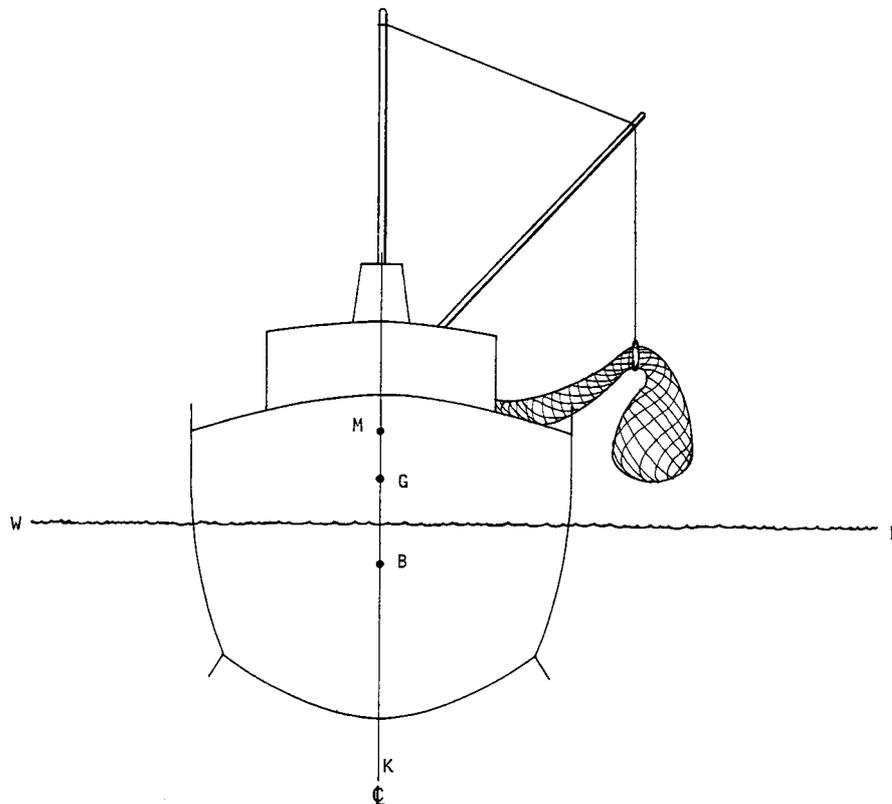

Fig. 2B.11
7. Figure 2B.11 shows a fishing trawler in the process of swinging a laden net on board. Where does the centre of gravity of the suspended weight act and what effect does this have on the centre of gravity of the vessel?